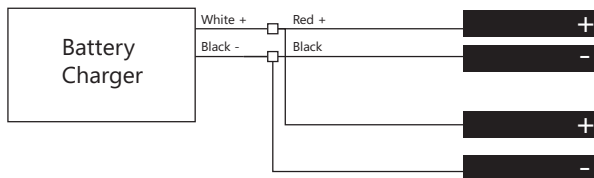

Figure 3-35
3. Determine which end has the AC power for the power supply. Connect the power supply with the provided connector, which has a red and black wire, to the red and black wires. Using the provided terminals, attach the charge wire to the wires in the rail. *See Figure 3-35.*